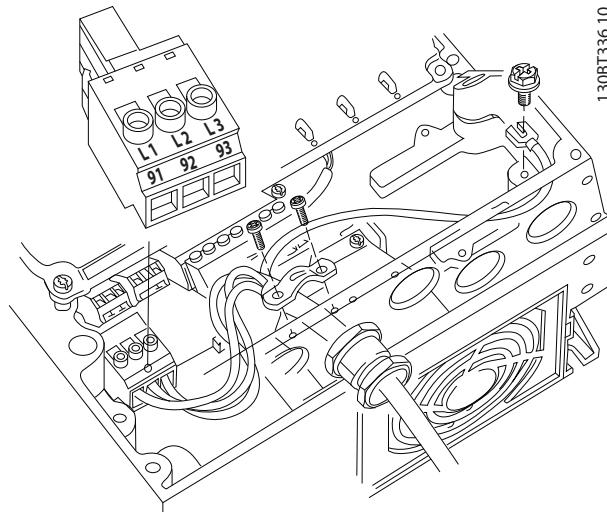

Fig. 18 — Connecting to AC Mains
- Connect 3-phase AC input power wiring to terminals L1, L2, and L3 (see Fig. 18).